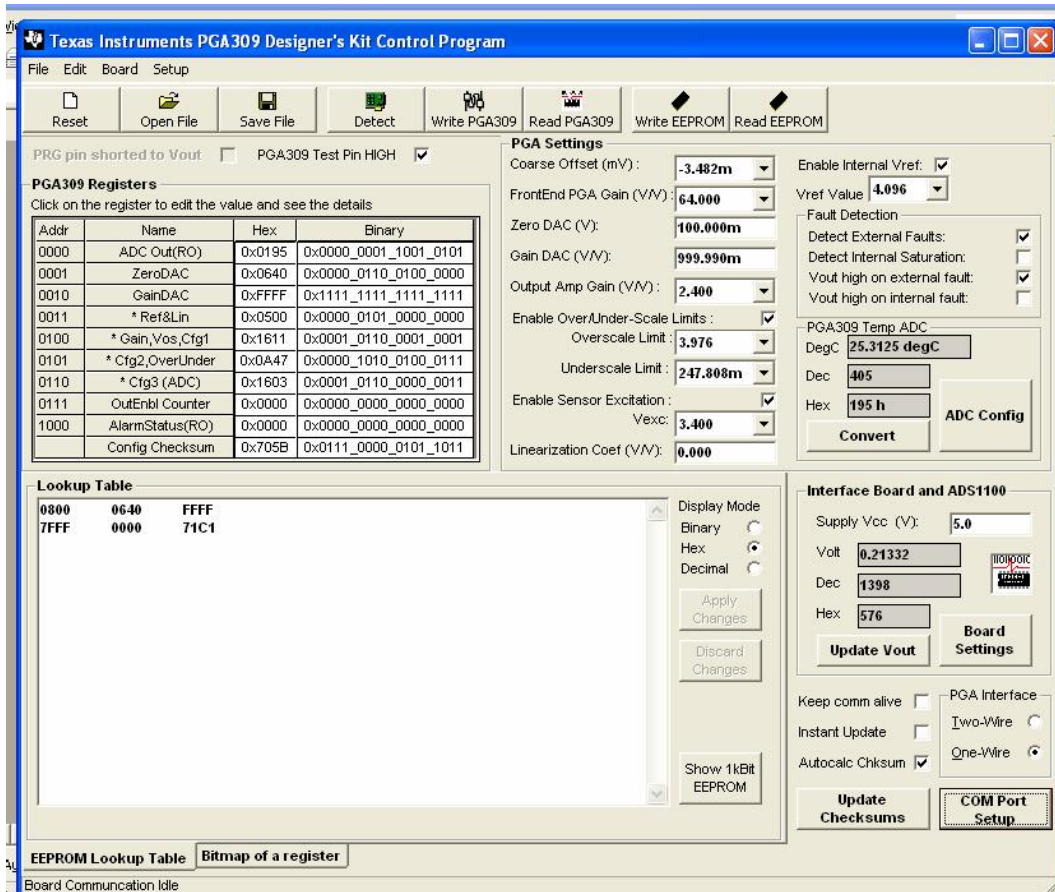

Figure 14: Main Window After Open File = “PGA309_DK_Test.txt”
The Main window will appear as in Figure 14.
- 3) Write these settings to the PGA309 Sensor Interface Board EEPROM by clicking on “Write EEPROM” in the Main Window. Click on “Read EEPROM” and then click on “Read PGA309”. The Main Window should look the same as in Figure 14.